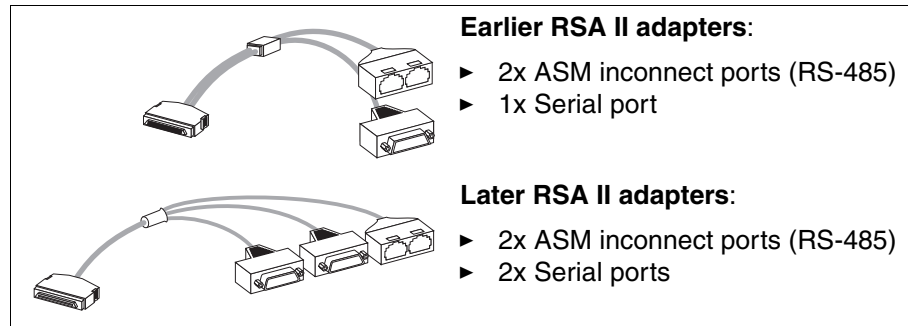
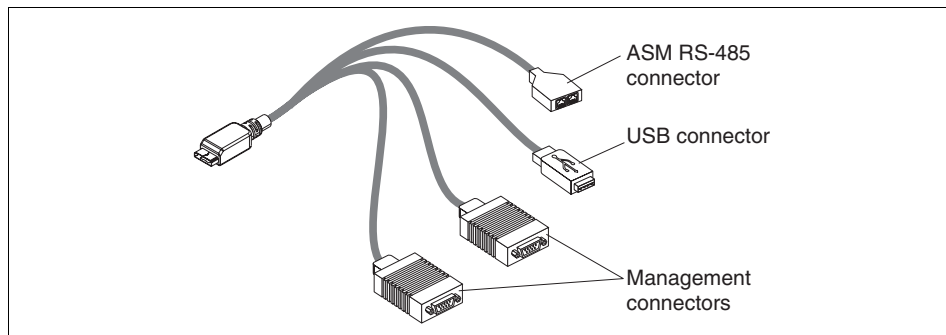

Figure 3-2 Breakout cable of RSA II
Figure 3-4 RSA II EXA breakout cable
- ▶ Mini-USB connector (4). This port provides the ability for remote keyboard and mouse when using the remote control feature. Connect this to a USB port of the server, except for the following servers where the cable should not be connected (the USB signal is transmitted inside these servers).
- ▶ Breakout connector (5). To use the RSA II as focal point for an ASM network or for connecting a modem, a breakout cable is supplied, which has the ASM and serial connections, as shown in Figure 3-2. The breakout cable has one or two serial connectors (earlier RSA II adapters had only one serial port) and two RJ45 connectors for daisy chaining the ASM RS-485 interconnect network.
The functionality of RSA II and RSA II-EXA is the same although the connectors are different. The breakout cable of the RSA II-EXA also contains the USB connector (which you connect to the server's USB port) and a second serial port, as shown in Figure 3-4.
- ▶ ASM interconnect/serial port breakout cable for the RSA II (Figure 3-2 on page 52) or RSA II-EXA (Figure 3-4 on page 53)